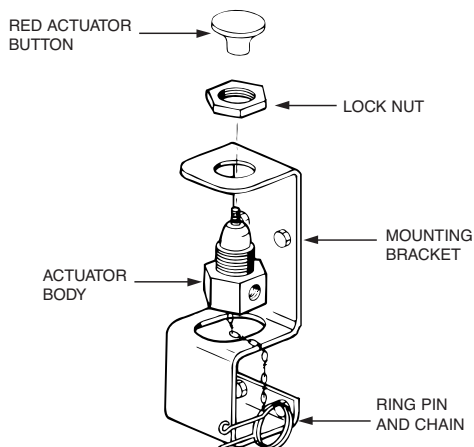

FIGURE 21
3. Unscrew the RED actuator button from the actuator stem and slide actuator body through mounting hole on bracket. See Figure 21.
4. Rotate actuator body for desired location of actuation piping outlet connection. Screw locknut firmly onto actuator body and insert ring pin. Reassemble button onto the stem. See Figure 21.